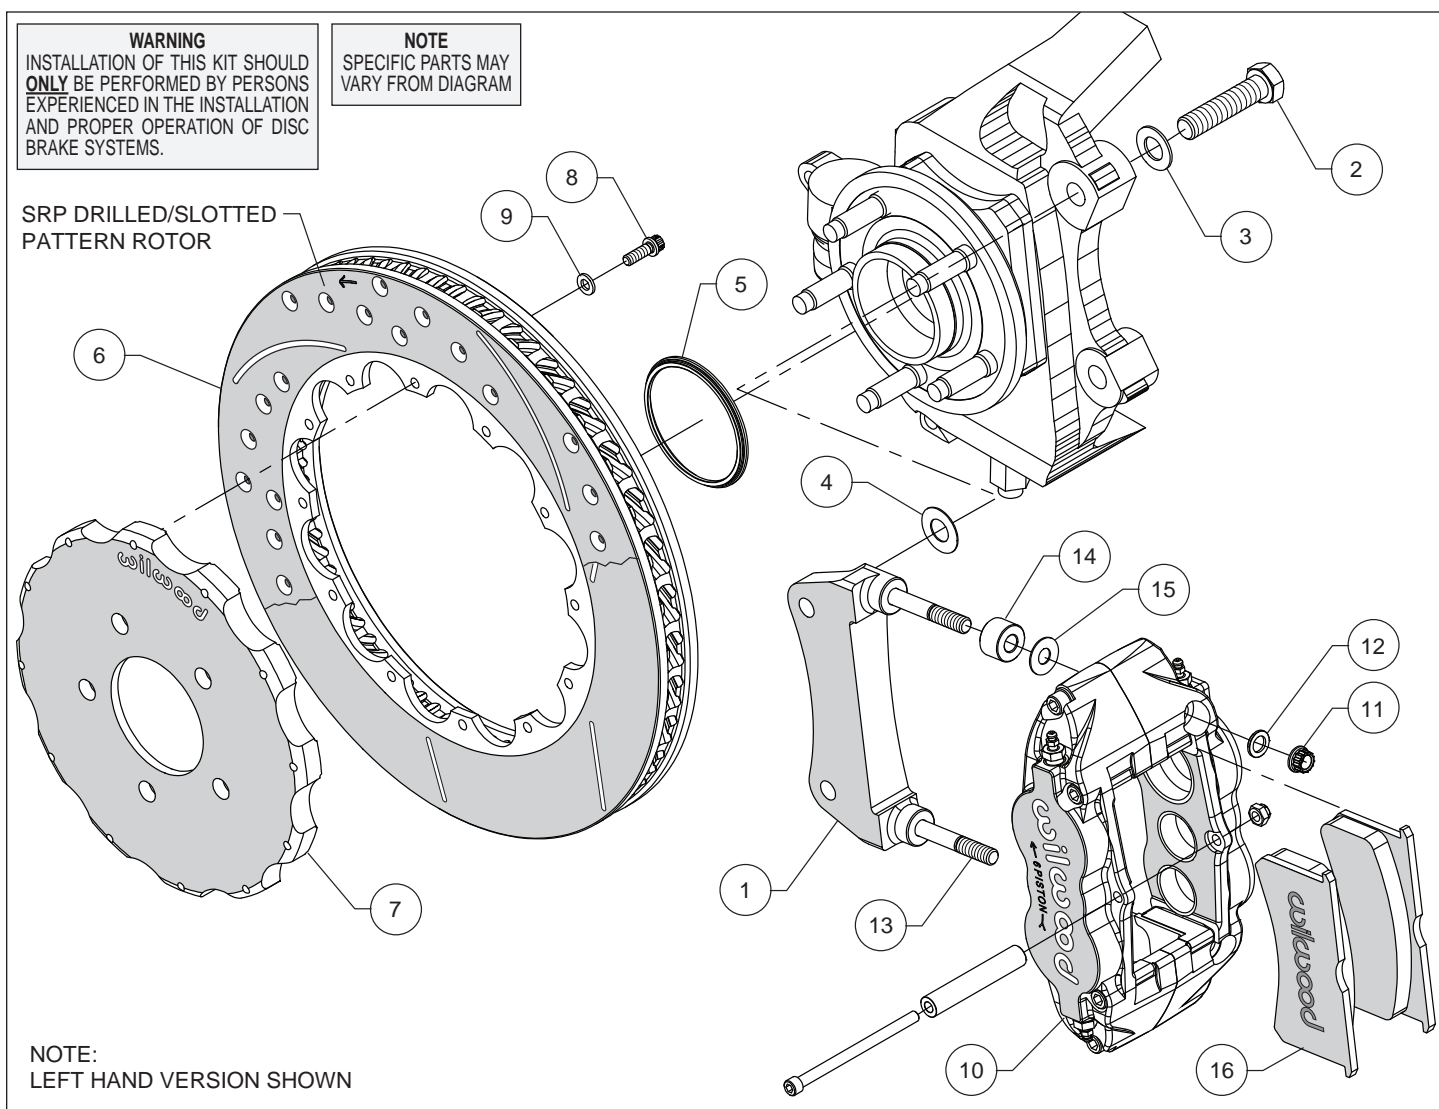
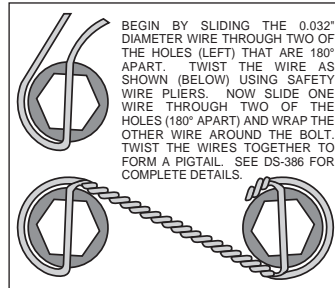

Figure 1. Typical Installation Configuration
Figure 3. Safety Wire Diagram
Assembly Instructions (numbers in parenthesis refer to the parts list and Figure 1 on the preceding pages):
- The caliper mount bracket (1) should initially be installed with clean, dry threads on the mounting bolts. Orient the bracket as shown in Figure 1 and Photo 1, and install using bolts (2) and washers (3). Initially place one .029 thick shim (4) on each bolt between the bracket and upright, Figure 1. Temporarily tighten the mounting bolts. **NOTE:** *The bracket must fit squarely against the mounting points on the upright.* Inspect for interference from casting irregularities, machining ridges, burrs, etc. Later, after the caliper alignment has been checked, the mount bolts will be secured using red *Loctite*[®] 271.
- Orient the rotor (6) and the hat (7) as shown in Figure 1 and Photo 2. Attach rotor to hat using bolts (8) and washers (9). Using an alternating sequence, apply red *Loctite*[®] 271 to the threads, and torque to 155 **in-lbs**. For an added measure of security, the bolts may be safety wired using standard 0.032 inch diameter stainless steel safety wire as shown in Figure 3. Please refer to Wilwood's data sheet DS-386 (available at www.wilwood.com/Pdf/DataSheets/ds386.pdf) for complete safety wire installation instructions.
- NOTE:** *This kit contains distinct right and left hand calipers that must be mounted in a specific direction, as described below.* Lubricate the caliper mounting studs (13) with lightweight oil. Initially place one spacer (14) and one .035" thick shim (15) on each stud between the caliper and the bracket, as shown in Figure 1 and Photo 5. Mount the caliper (10) onto the bracket (1) using lock nuts (11) and washers (12), Figure 1. Ensure that the caliper is mounted so the largest pistons are at the rotor exit end of the caliper, in relation to the direction of rotor rotation. Temporarily tighten the lock nuts and view the rotor through the top opening of the caliper. The rotor should be centered in the caliper, Photo 6. If not, adjust by adding or subtracting shims (4) between the bracket and the upright. Always use the same amount of shims on each of the two mounting bolts. Once the caliper alignment is correct, remove the bracket mounting bolts (2) one at a time, apply red *Loctite*[®] 271 to the threads, and torque to 77 ft-lbs.